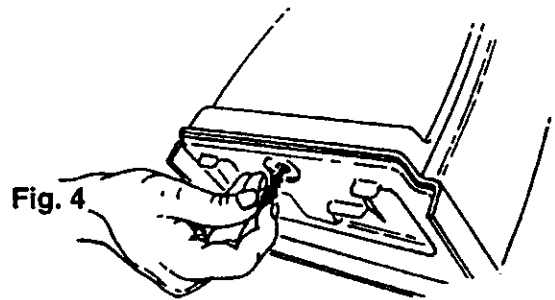

Fig. 4
1. Slide valve assembly into valve seat through opening in bottom of tank (Fig. 4). Use a small amount of soap on seal to ease assembly.